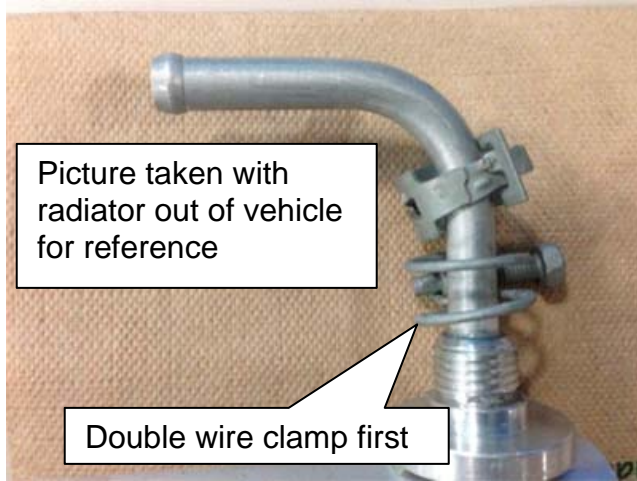
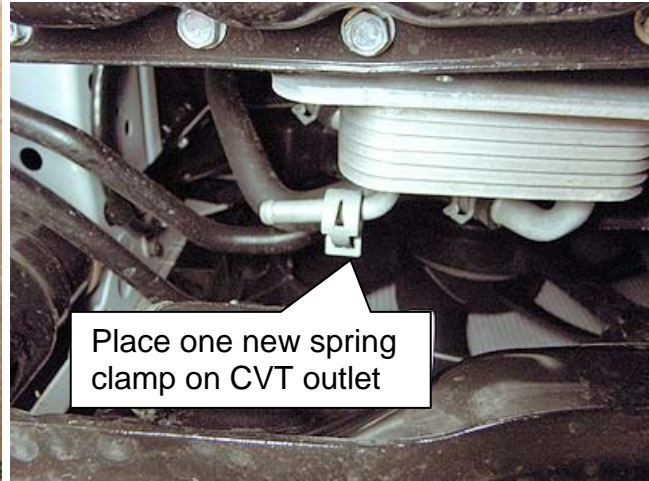

Figure 3
Figure 4
5. Slide two clamps onto the radiator side (Figure 3), and then one spring clamp onto the CVT side (Figure 4) cooler line fittings.